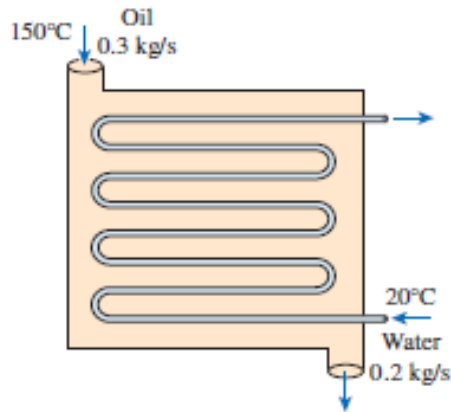

Figure 6
- b) Hot oil is to be cooled by water in a one-shell-pass and eight-tube-passes heat exchanger (Figure.6). The tubes are thin-walled and are made of copper with an internal diameter of 1.4 cm. The length of each tube pass in the heat exchanger is 5 m, and the over-all heat transfer coefficient is  $310 \text{ W/m}^2 \cdot \text{K}$ . Water flows through the tubes at a rate of 0.2 kg/s and the oil through the shell at a rate of 0.3 kg/s. The water and the oil enter at temperatures of  $20^\circ\text{C}$  and  $150^\circ\text{C}$ , respectively. Determine the rate of heat transfer in the heat exchanger and the outlet temperatures of the water and the oil. The specific heats of water and oil to be 4.18 and 2.13 kJ/kg $\cdot^\circ\text{C}$ , respectively. **10**